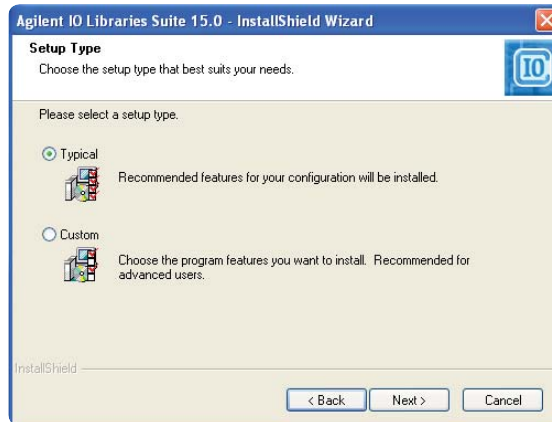

Figure 2. Typical setup for Agilent IO Libraries Suite.
Step 2: Install Agilent IO Libraries Suite (you can download the software from this website: www.agilent.com/find/iosuite).	a) Choose Typical setup to detect NI-VISA and to enable side-by-side mode. See Figure 2 and Figure 3.